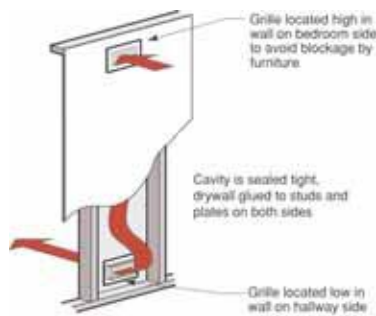

Figure 3a
- A sealed combustion hot air furnace. A single central return requires transfer grilles to provide return path and avoid pressurizing bedrooms (see **Figures 3a-d**).